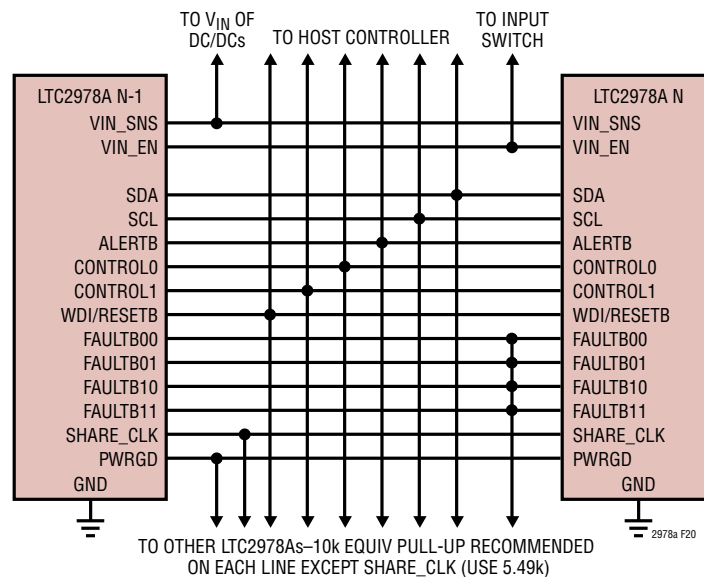
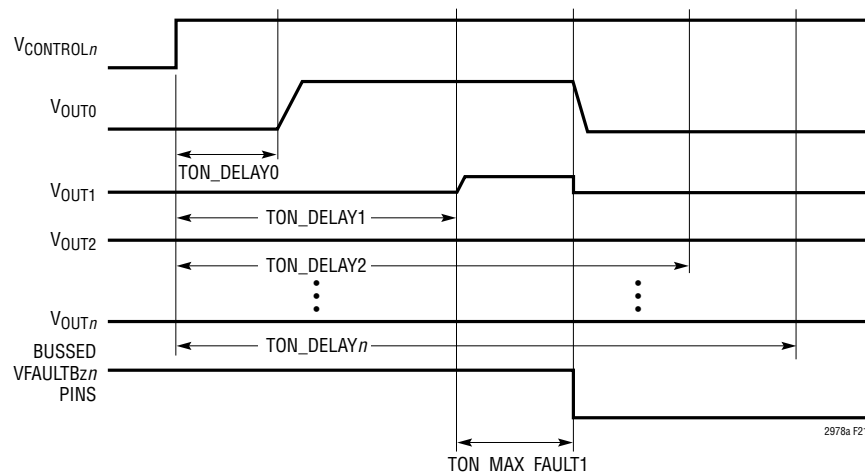

Figure 20. Typical Connections Between Multiple LTC2978As
Figure 21. Aborted On Sequence Due to Channel 1 Short
Figure 20 shows how to interconnect the pins in a typical multi-LTC2978A array.
- The FAULTBzn lines can be connected together to create fault dependencies. Figure 20 shows a configuration where a fault on any FAULTBzn will pull all others low. This is useful for arrays where it is desired to abort a start-up sequence in the event any channel does not come up (see Figure 21).
- PWRGD reflects the status of the outputs that are mapped to it by the MFR\_PWRGD\_EN command. Figure 20 shows all the PWRGD pins connected together, but any combination may be used. Note that the latency of the PWRGD pin response may be in the range of 30ms to 185ms depending on ADC MUX settings. See Electrical Characteristics Table Note 4.